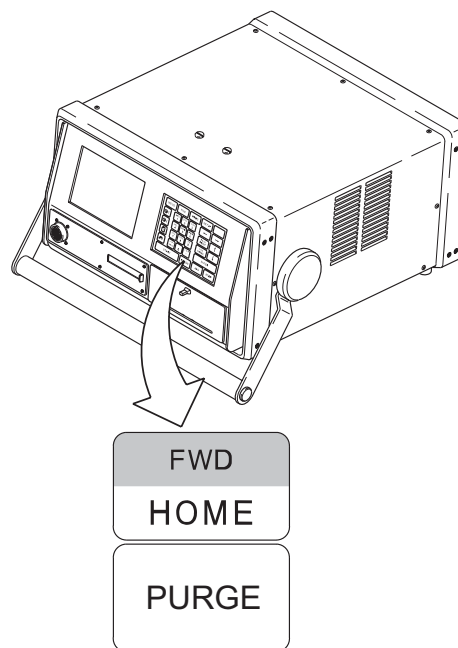

Figure 86 Pushbutton Locations
5. Locate the **HOME** and **PURGE** pushbuttons on the front panel. See Figure 86.